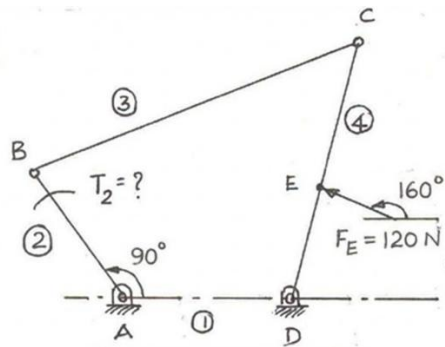

Fig. 2.
7. A four-link mechanism is acted upon by forces as shown in figure 2. Determine the torque T_2 to be applied on link 2 to keep the mechanism in equilibrium. $AD=50\text{mm}$, $AB=40\text{mm}$, $BC=100\text{mm}$, $Dc=75\text{mm}$ & $DE=35\text{mm}$.